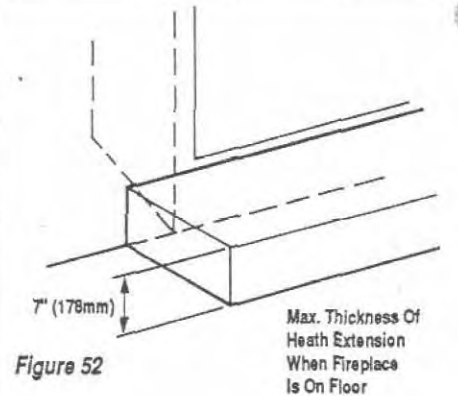

Figure 52
**WARNING: FIREPLACE MUST BE RAISED IF HEIGHT OF HEARTH EXTENSION EXCEEDS 7" (178MM) ABOVE BOTTOM OF FIREPLACE (FIGURE 52).**